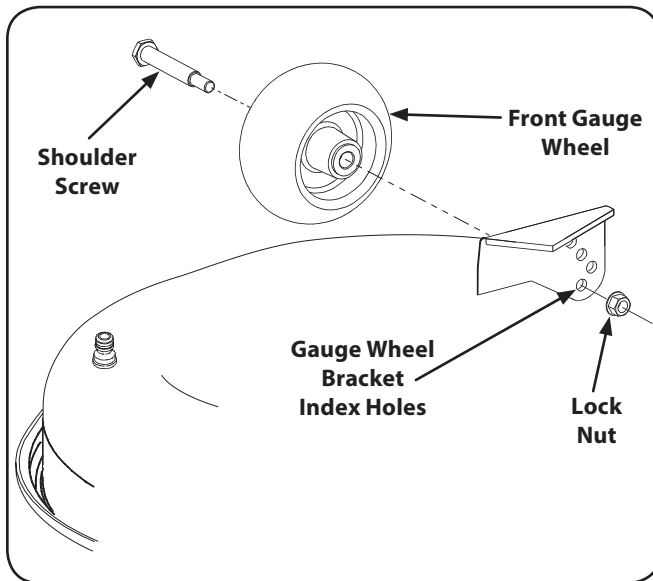

Figure 3-5
- a. Remove the lock nut securing one of the front gauge wheel shoulder screws to the deck. Remove the gauge wheel and shoulder screw. See Figure 3-5.